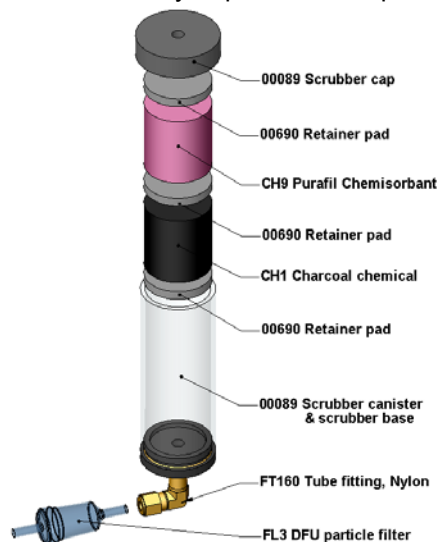

Figure 9-3: Zero Air Scrubber Assembly
5. Refill the scrubber with charcoal at the bottom and the Purafil[®] chemical at the top and use three, white retainer pads to separate the chemicals as shown in Figure 9-3.